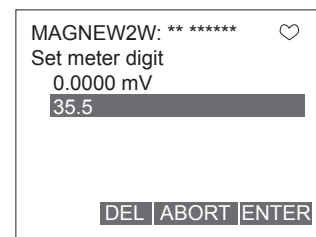

Fig. 7-63.
2. Fig. 7-63. will then appears. Connect the device to measure the pulse output, and then press F4 (OK).